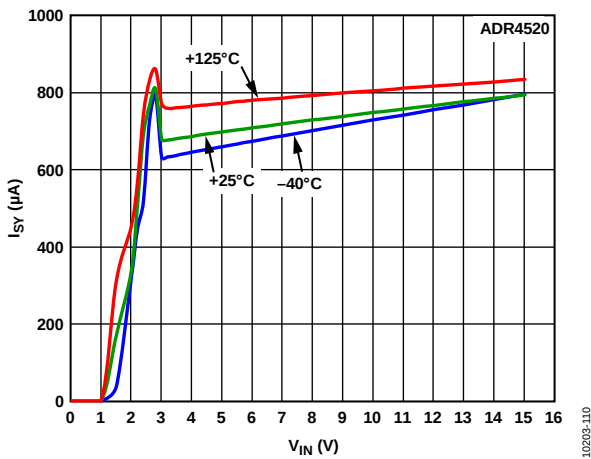

Figure 10. ADR4520 Supply Current vs. Supply Voltage
Figure 10 is a line graph showing the quiescent current I_{SQ} (in μA) on the y-axis versus the input voltage V_{IN} (in V) on the x-axis for the ADR4530. The y-axis ranges from 0 to 0.0009 μA with major grid lines every 0.0001 μA . The x-axis ranges from 0 to 13 V with major grid lines every 1 V. Three curves are plotted for different temperatures: +125°C (red), +25°C (green), and -40°C (blue). All curves show a sharp increase in current as V_{IN} increases from 1 V to 3 V, after which the current levels off. The current is highest at +125°C and lowest at -40°C.
Figure 10 is a line graph titled "Load Regulation" showing the relationship between Load Current (I_{LOAD} in mA) on the x-axis and Drop Out Voltage (V) on the y-axis for the ADR4530 device. The x-axis ranges from -15 mA to 15 mA, and the y-axis ranges from 0 V to 1.4 V. Three curves are plotted for different temperatures: +125°C (red), +25°C (green), and -40°C (blue). All curves show a sharp increase in drop out voltage as load current increases from 0 mA. The +125°C curve is the highest, followed by +25°C, and then -40°C.